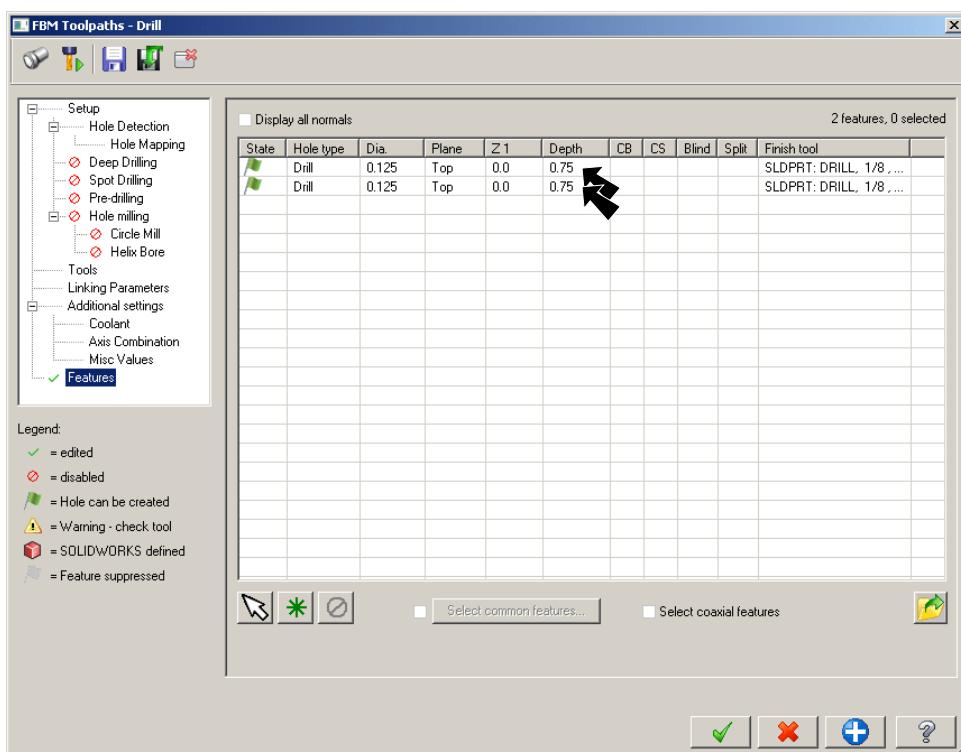

Fig. 69
Step 6. Confirm 2 holes and depth .75 are listed and click **OK** , Fig. 69.